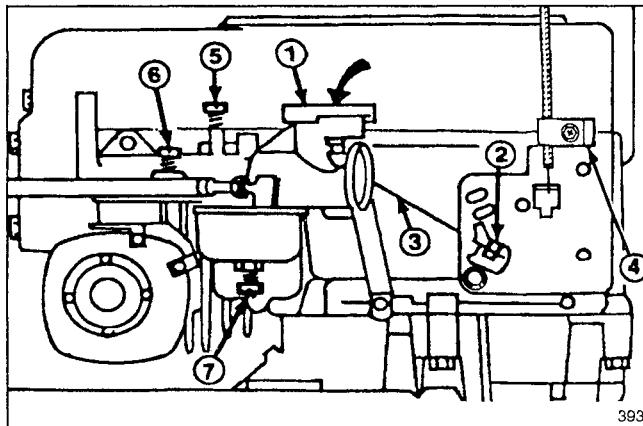

Figure 15
2. Move throttle control lever to CHOKE position and check the position of the choke butterfly; it should be fully closed (Fig. 15).
3. Move throttle control lever to FAST position. The butterfly should be in the fully open position (Fig. 15).
2. Loosen the throttle cable clamp screw (Fig. 15) and move the control cable casing and wire until the throttle lever touches choke link. Check for proper choke operation.
1. Needle Valve (Fig. 15) – Close valve by gently rotating it clockwise.
2. Rotate – open – the needle valve 2 turns counter-clockwise (Fig. 15).
4. Rotate needle valve (Fig. 15) clockwise, 1/8 turn at a time, until engine starts to lose speed. Let engine react to each 1/8 turn setting.
5. Rotate needle valve (Fig. 15) counterclockwise – out – 1/8 turn at a time, until engine first runs rough. Let engine react to each 1/8 turn setting.
6. Rotate needle valve (Fig. 15) clockwise – in – very slowly until engine starts to run smoothly. This setting, under no load, may be slightly rich; however, the slightly rich setting will assure proper operation when engine is under load.